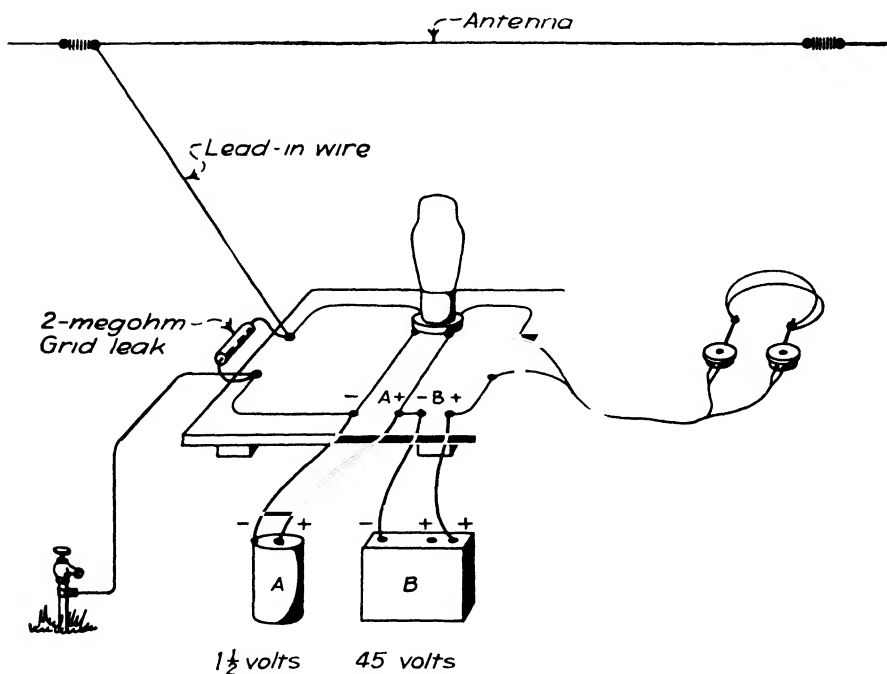

FIG. 122. Simple one-tube detector circuit. With this circuit you should hear louder signals because the tube is able to amplify the signals somewhat.
Use the same tube circuit board and earphones that you used in the last experiment (see Figs. 122 and 123).
Step 1. Connect the antenna lead-in wire to the grid post on the set board. Connect the ground wire to the A-minus connection on the board (see Fig. 122).